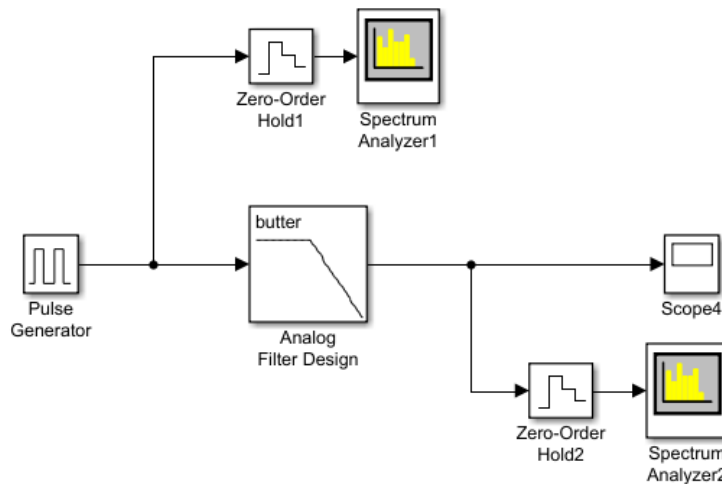

Fig.5: Spectrum scope block
d) Fig.5 may be used to understand the Band Limiting of waveforms.